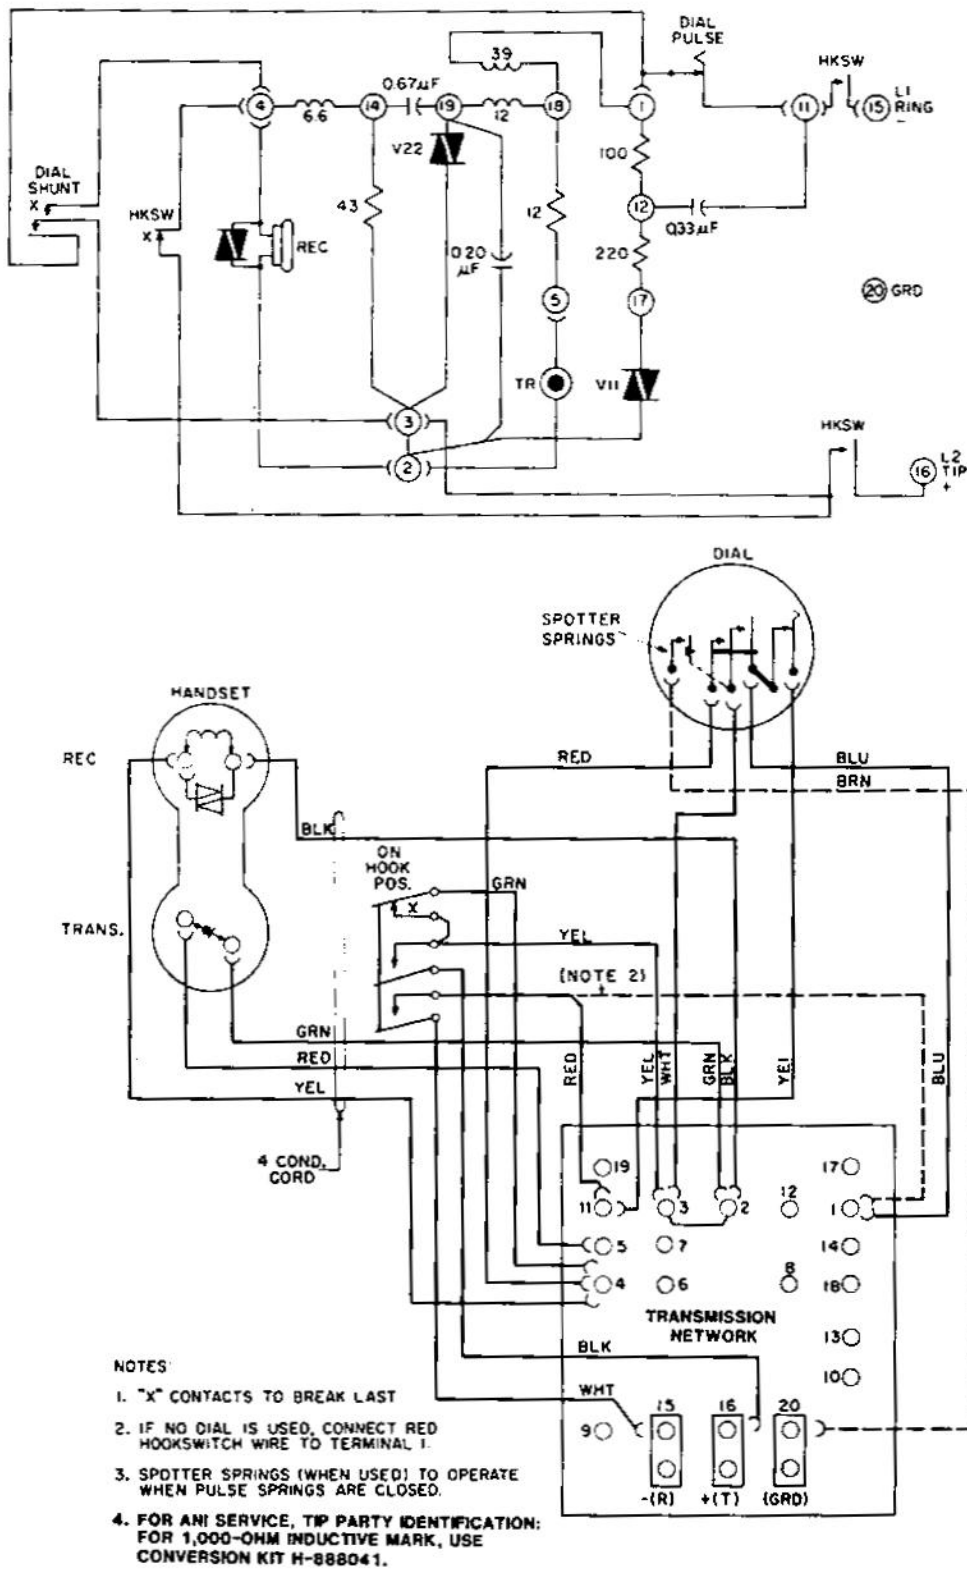

Figure 9. Schematic and Wiring Diagram for Self-Compensating Type 183 Telephone Equipped With D-38387-C Transmission Network.
4.16 For self-compensating transmission networks having screw terminals (Figure 9), connect the capacitors between terminals 2 and 4, 3, and 5 and 5 and 1.